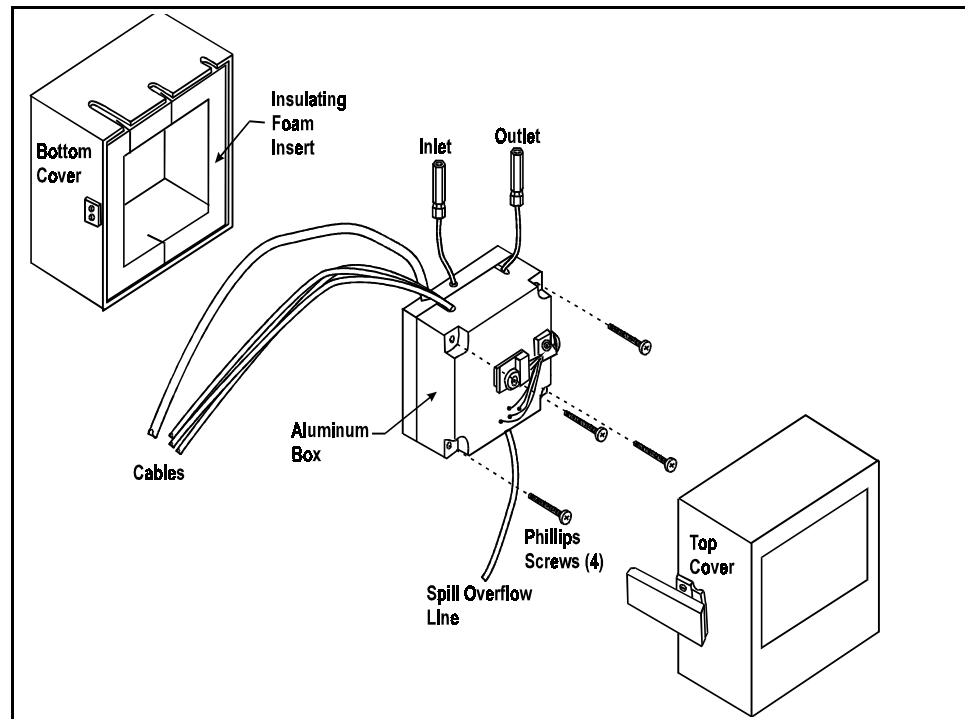

Figure 4-1. DS4 Exploded View
3. Disconnect the DS4 inlet and outlet lines. Do not misplace the ferrule fittings at the end of the tubing (see Figure 4-1).
5. Open both latches on the DS4 and carefully lift off the top half of the cover, along with its insulating foam insert, exposing an aluminum box (see Figure 4-1).